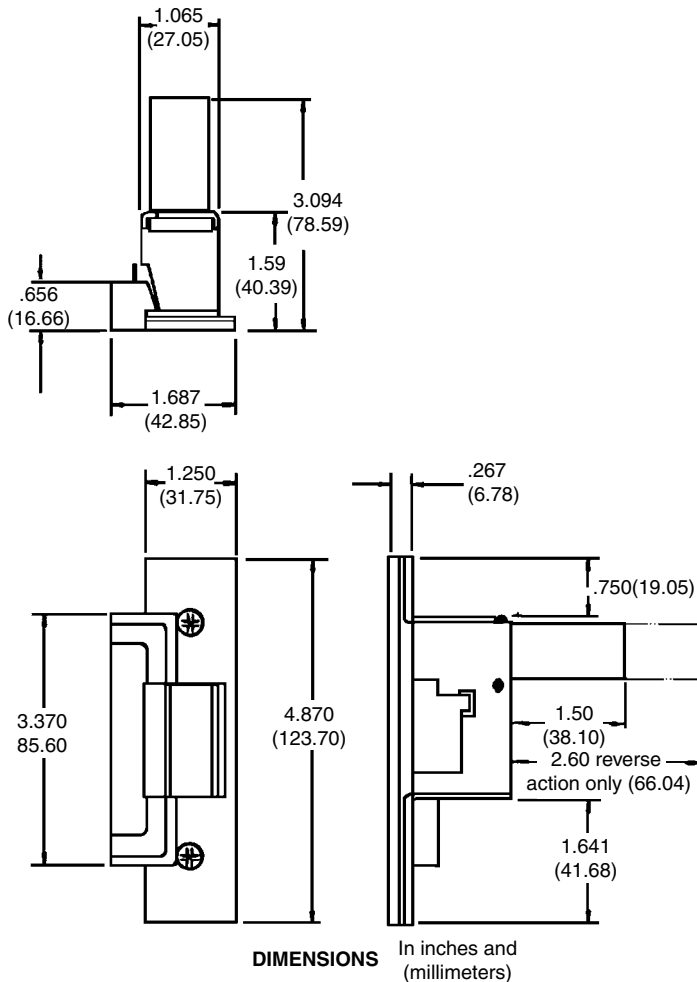

Figure 19.7 Strike unit dimensions for wood door jamb installations. (Adams Rite Mfg. Co.)
5. Figure 19.7 provides the technical dimensions of the strike unit to be installed.